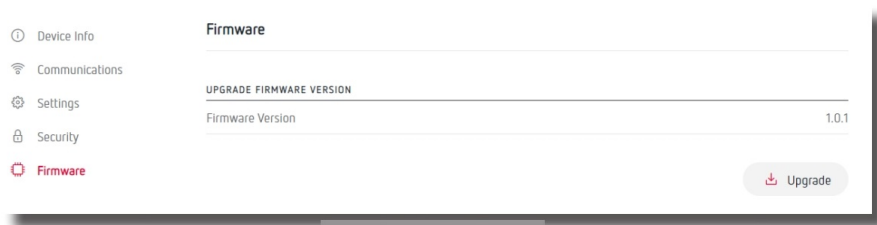

Figure 9: Website: Firmware.
- On the Firmware screen, update the device's firmware (**Figure 9**).